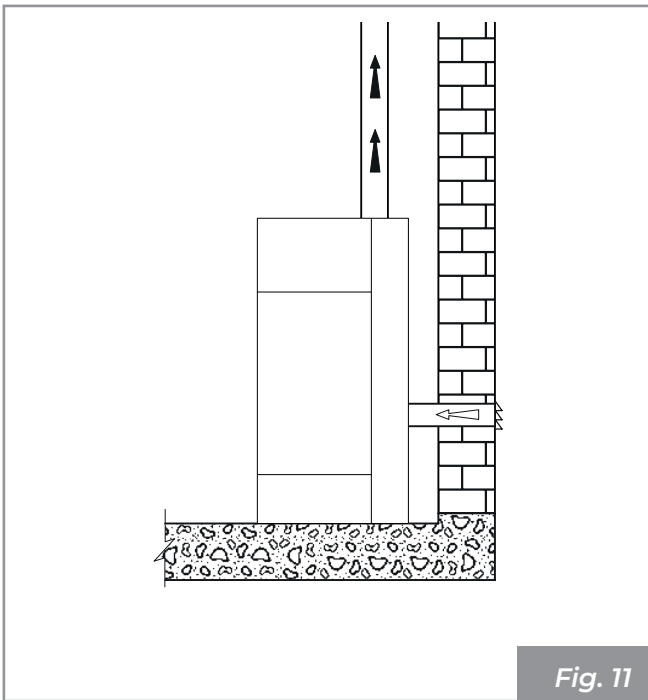

Fig. 11
- it can come directly from outside with direct connection to the combustion chamber (**Fig. 11**).
- to connect the combustion air inlet of the appliance to the air intake using a special pipe (**Fig. 11**).